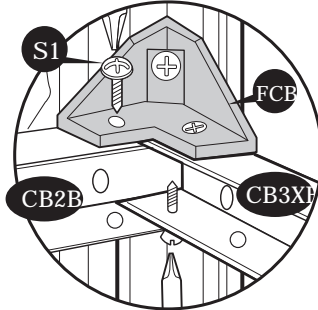

Fig. 2: Use (S1) screws. Fix (CB2B) to (FCB) and (CB3XB).
17. Stabilize the side panels with center band (CB2B). Fix (FCB) to column (CCB) See (fig.1) (fig.2) (fig.3) and (fig.4) for details.